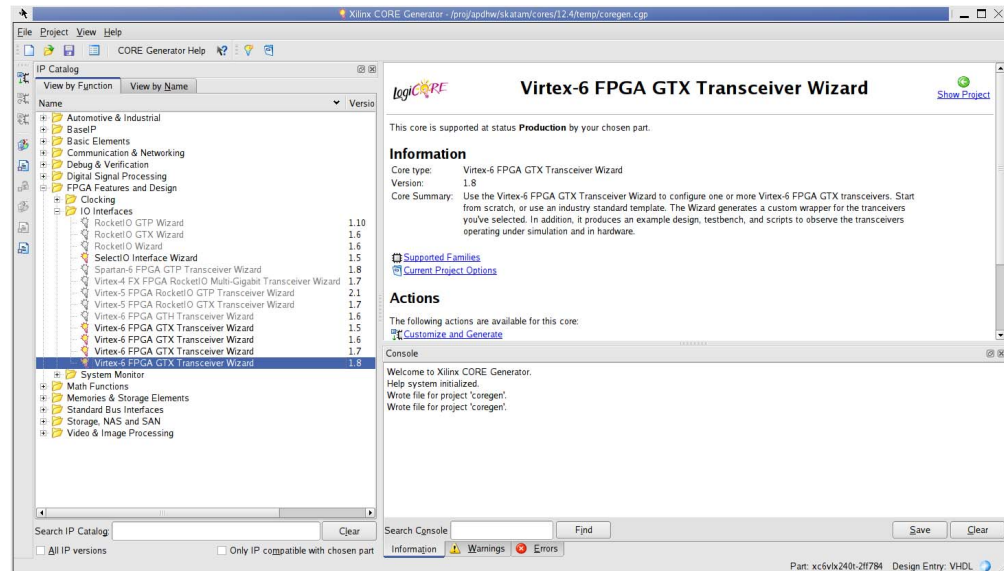

Figure 3-6: Locating the GTX Transceiver Wizard
1. Locate Virtex-6 FPGA GTX Transceiver Wizard 1.8 in the taxonomy tree under: /FPGA Features & Design/IO Interfaces. (See Figure 3-6)